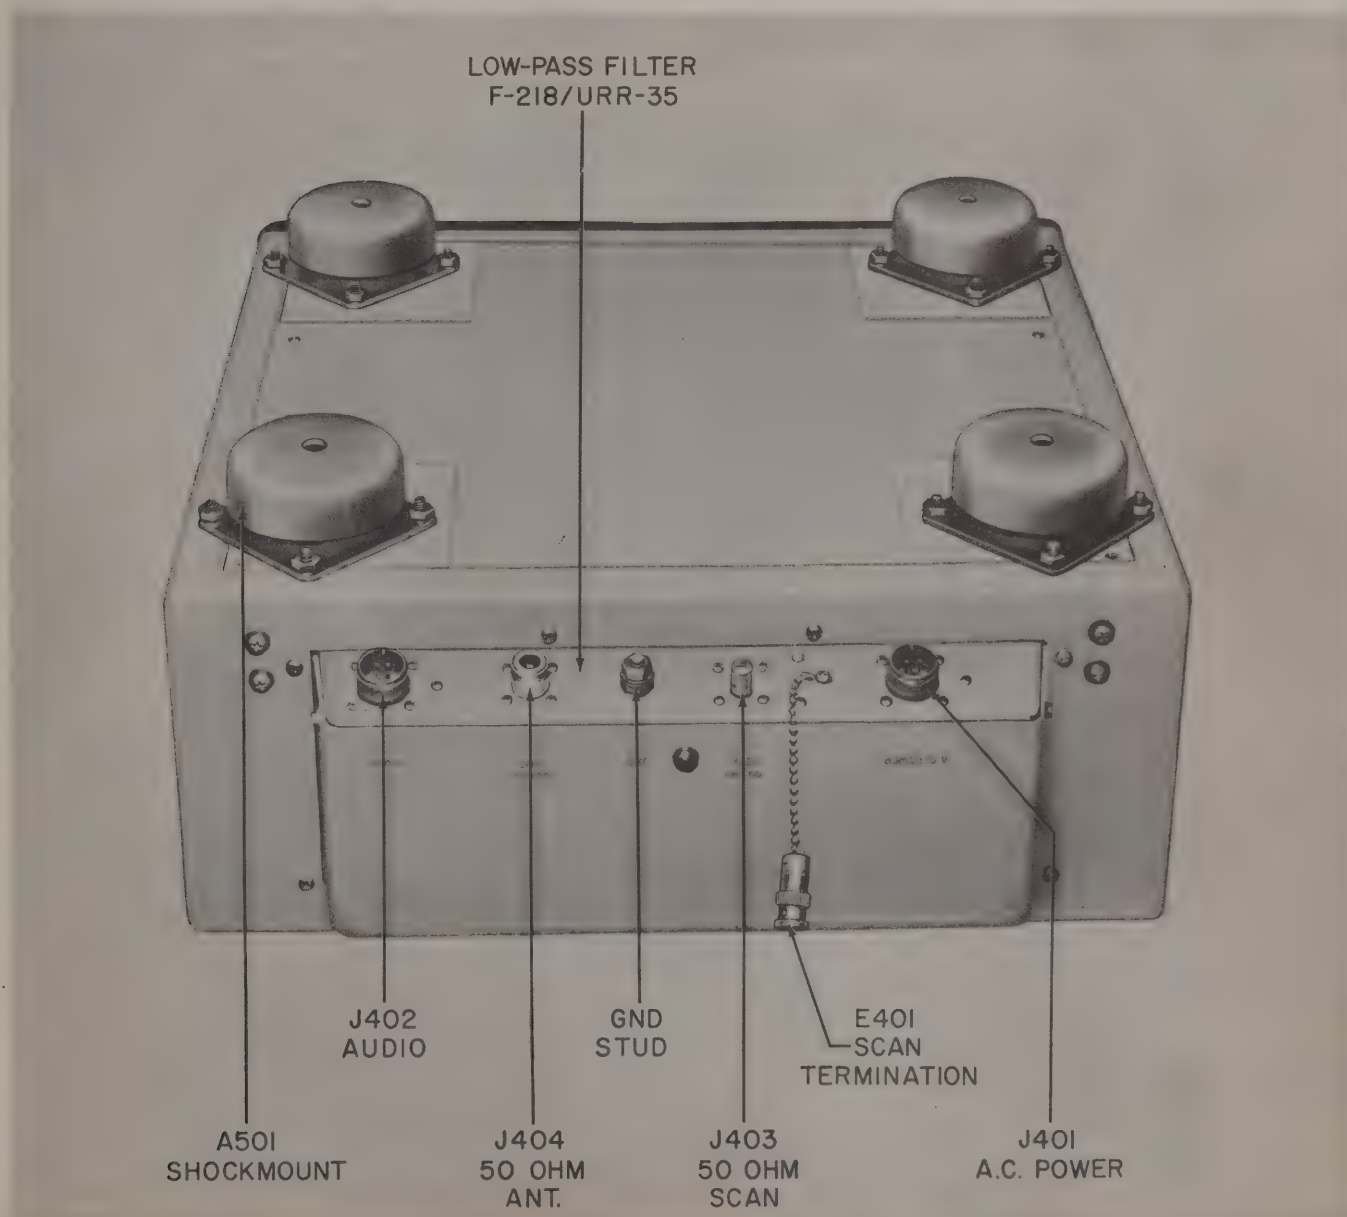

Figure 1-3. Radio Receiver R-482/URR-35, Rear View (Upside Down) Showing Low-Pass Filter F-218/URR-35
g. LOW-PASS FILTER F-218/URR-35.—The low-pass filter is shown in figure 1-3. It contains r-f noise-filter circuits for the audio output and power input circuits, and provides through connections from the receiver proper to the antenna input and scan-channel output circuit connectors. The filter parts are mounted on a base plate which is attached to the rear wall of the receiver cabinet by means of snap-slide fasteners located on the inside of the cabinet. The filter cover,
When the scan channel is not in use, scan-channel termination E401 must be connected to the 50 OHM SCAN connector (J403); see figure 1-3. Mounted inside of the termination is a 47-ohm resistor which terminates the r-f cable between J403 and J201 in its approximate characteristic impedance, thus preventing radiation from this cable.